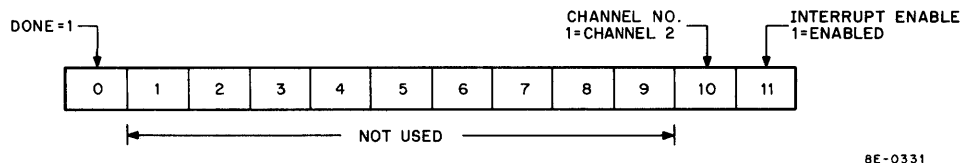
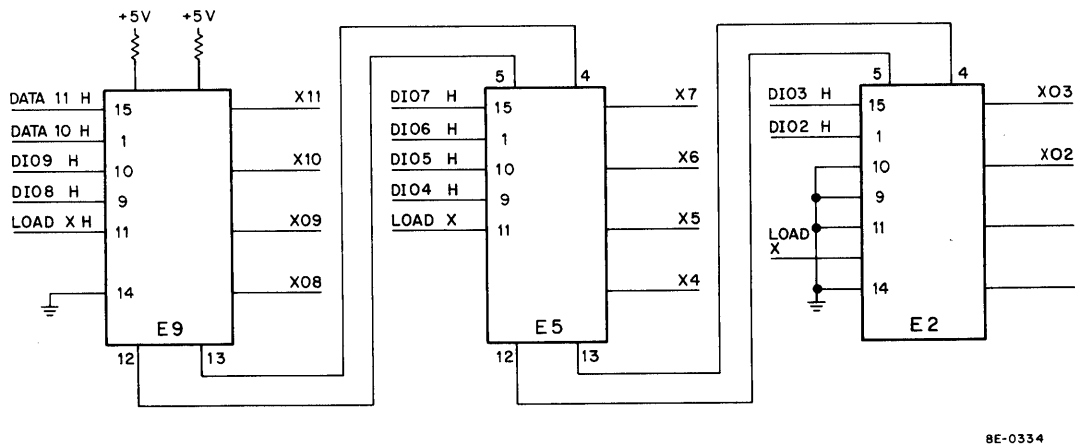
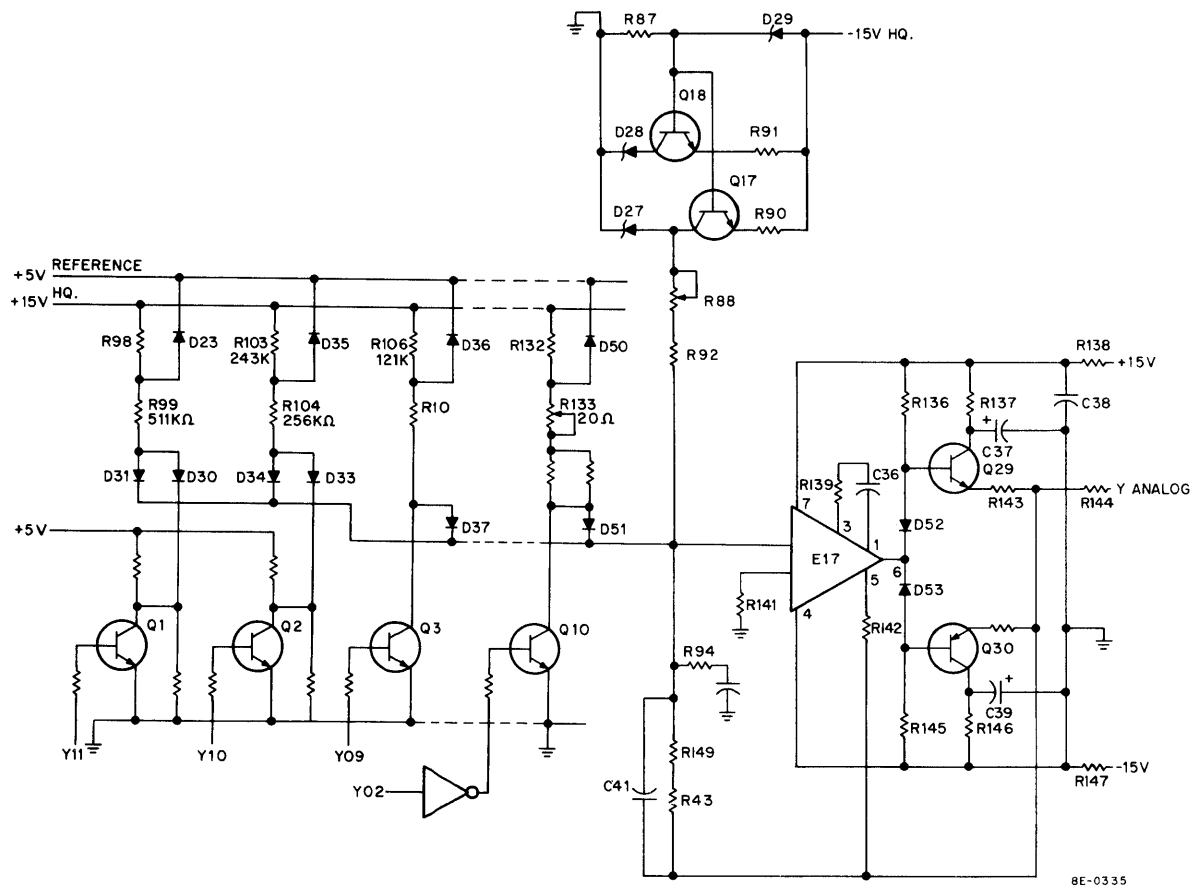

Figure 4-38 Enable/Status Register Word Contents
Figure 4-42 X-Axis Holding Register
Figure 4-43 Analog Switches and Summing Amplifier
**4.4.2.5 Holding Registers** – The X- and Y-axis Holding Registers (see Figure 4-42) will receive inputs from the Data Gates when the DILY and DILX instructions are executed, and will provide outputs to the analog switches. The Holding Registers consist of three 74193 ICs for each axis. (See Appendix A for the logic diagram and pin locations of the 74193 IC.) Figure 4-42 shows only the X Holding Register, but the Y Holding Register is identical. The LOAD X or LOAD Y generated by DILX or DILY (see Figure 4-38) will enable gates in the IC to load bits 02–11 into the Holding Register. The output of the Holding Register will be applied to the analog switches (see Figure 4-43).
**4.4.2.6 Analog Switches and Summing Amplifier** – The analog switches, weighted resistors, and summing amplifier will receive 10 digital bits as input and will supply a  $\pm 5$  Vdc output (see Figure 4-43). The digital input will turn on or cut off the switches which supply current to the summing junction. The summing junction is tied to the input of E17. The sum of the currents supplied by the analog switches will produce a voltage on the output of the summing amplifier which is proportional to the contents of the Holding Register.
The analog switches (see bit 11 in Figure 4-43) supply current from the +5V reference to the summing junction through D3 when a low input is applied to the base of Q1. The current supplied will be determined by the resistance of the weighted resistor R99. The current produced by turning off Q1 and allowing D31 to conduct will be approximately  $5V/R_w$ ;  $R_w$  being the value of R99. D30 and D33 are added to the least-significant bit positions to isolate the transistor capacitance from the summing junction. When a high input (1) is applied to Q1, the transistor will cut off D30 and all the current will flow through the transistor to ground.